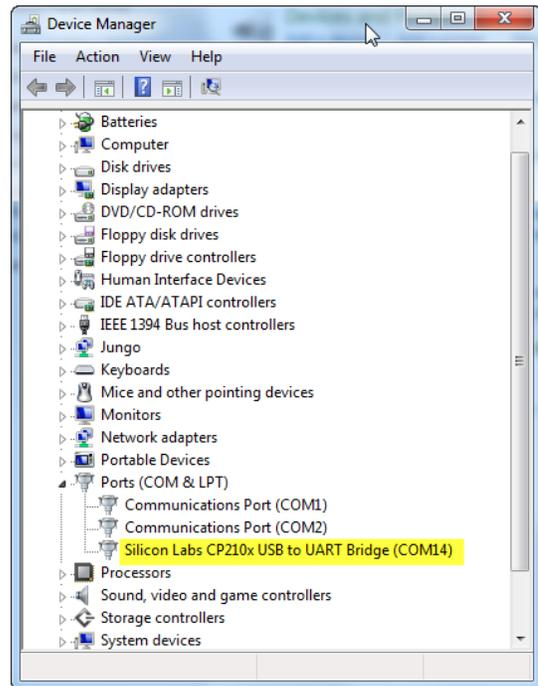

Figure 6 – Device Manager showing COM Port for A-910 Dongle
5. Locate **SILICON LABS CP210x USB to UART Bridge (COM x)** (see Figure 6).
6. Note the COM Port listed and select that COM Port in the A-910 Zigbee Utility software using the drop-down arrow (see Figure 6).